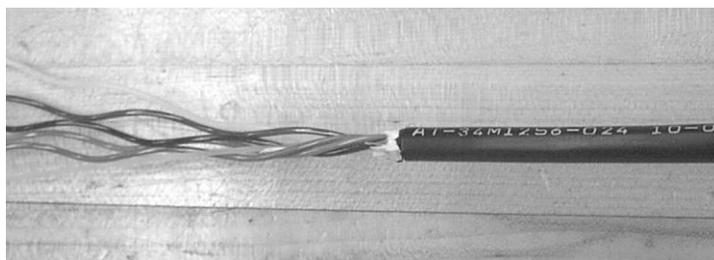

Figure 29 - Unwrap the buffer tubes.
5.16 Carefully unwrap the buffer tubes from each other. Remove any water blocking threads from between the tubes and the central strength member (Figure 29).